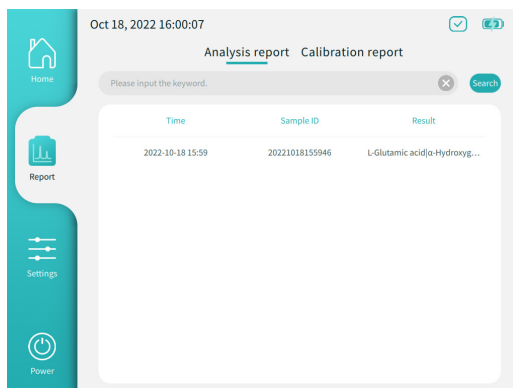

Figure 3.6 Report and History
1. In the instrument operation interface, click [report] on the left navigation bar to view the history of sample analysis and calibration (Figure 3.6).